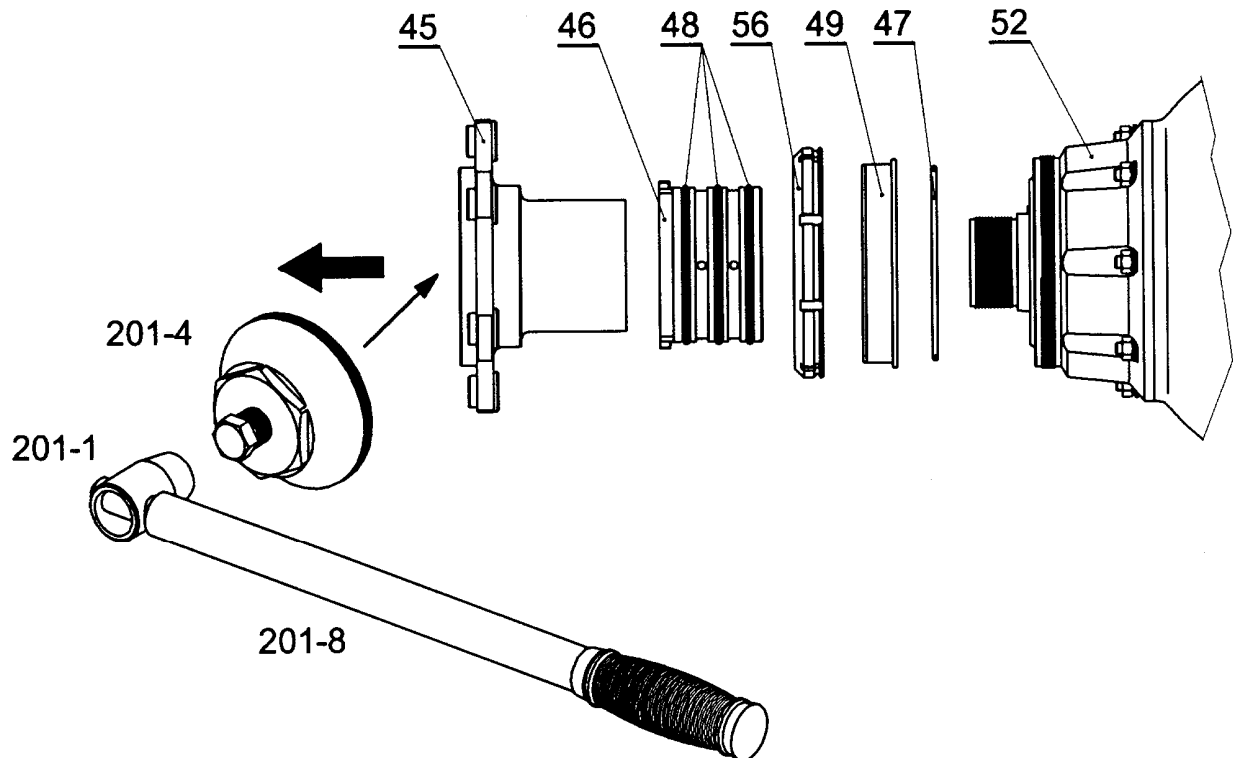

Fig.216 Flange and floating sleeve of LUN 7902 distributor removing
- (1) After propeller removing (see 2.A.) remove wire (58) and bushing (53). By using the wrench (201-3), adjustable mounting tube (201-9) and mounting bar (201-8) screw off to the left and screw out the nut (50) and take off the washer (59). When screwing off the nut (50) put on the flange (45) wrench (201-2) with adjustable mounting tube (201-9), and mounting bar (201-8) and stop to the spinning of the crankshaft (204).
- (2) Remove wire (57) from the sliding nut (56), loosen nut by the wrench (201-7), screw off and slide direct to the flange
- (3) Screw the remover (201-4) into the flange (45) by the means of wrench (201-3).
- (4) Set the wrench (201-1) on the bolt of the remover with mounting bar (201-8), turning the remover bolt loose the flange (see fig.216).
- (5) Pull the flange and remove it from the distributor.